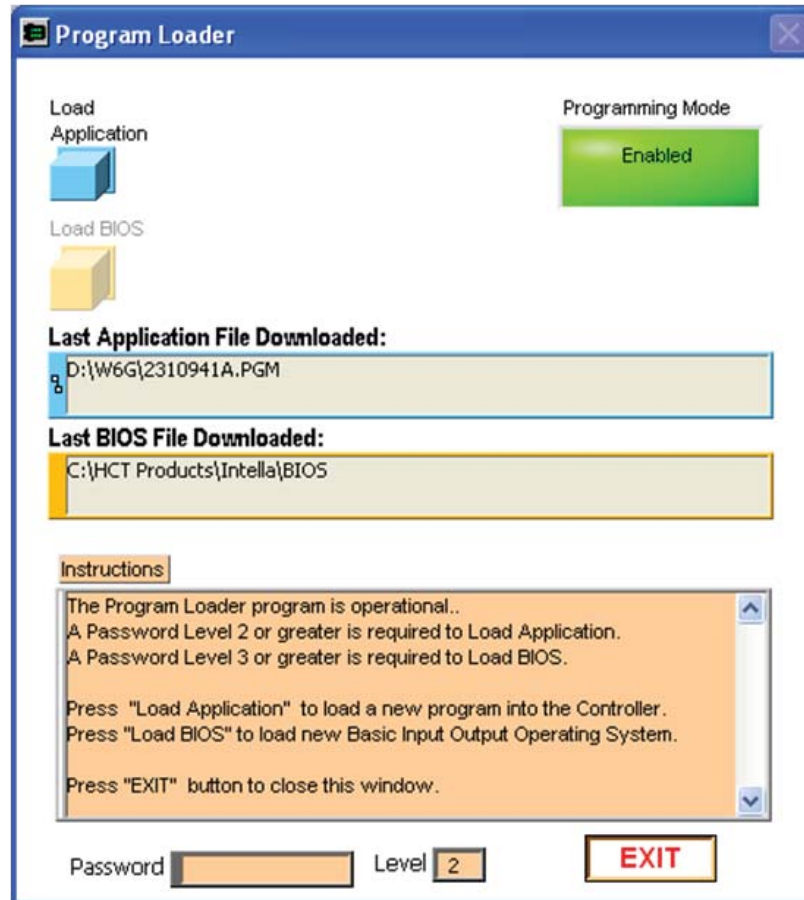

Figure 3-27 Enabled Program Loader
- When the Program Loader sees the ECM enter programming mode, the "Load Application" and the "Load BIOS" buttons will no longer be grayed out and the Programming Mode light will turn green and say "Enabled" as shown in Figure 3-27.